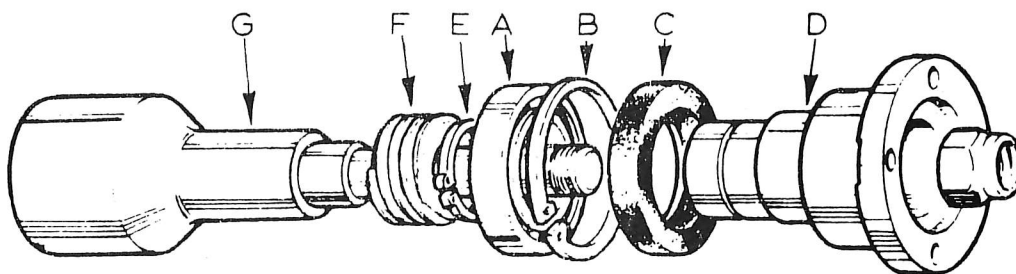

Fig.36. OUTPUT SHAFT
1. Using Special Tool (22A), insert bearing (A, Fig.36) into the output shaft housing from the exterior.
2. Fit circlip (B, Fig.36) into output shaft housing against the outer face of the bearing.
3. Using Special Tool (21A) insert oil seal (C, Fig.36) into the output shaft housing from the outside.
4. Apply a film of oil to the faces of the output flange (D, Fig.36) which will contact the oil seal, and press flange into bearing. From inside of housing, fit the circlip (E, Fig.36) to the output flange.
5. Fit the speedometer driving gear (F, Fig.36) to the output shaft (G, Fig.36), with its FLAT face towards the shoulder on the output shaft.